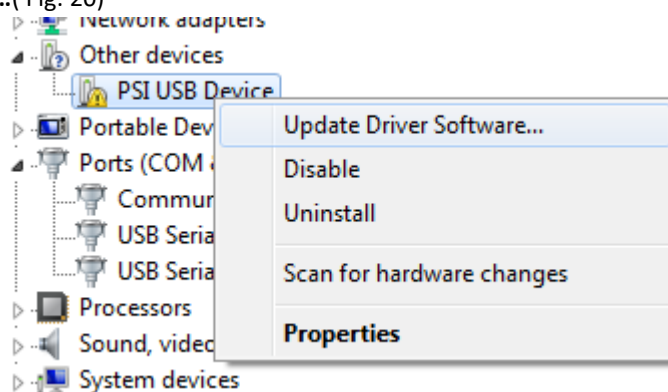

Fig. 20 PSI USB Device.
- Connect the SpectraPen to the PC. You should see that **PSI USB Device** appears in the list. Right click on it and select **Update Driver Software...** (Fig. 20)